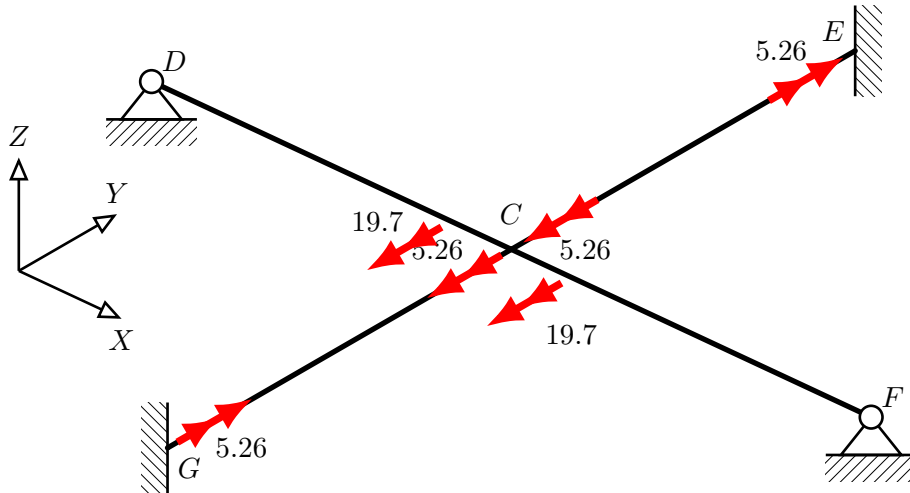
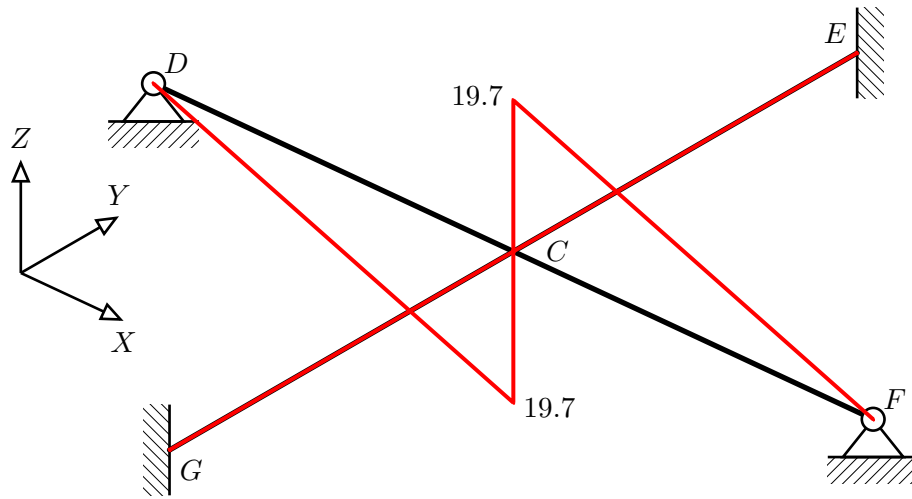
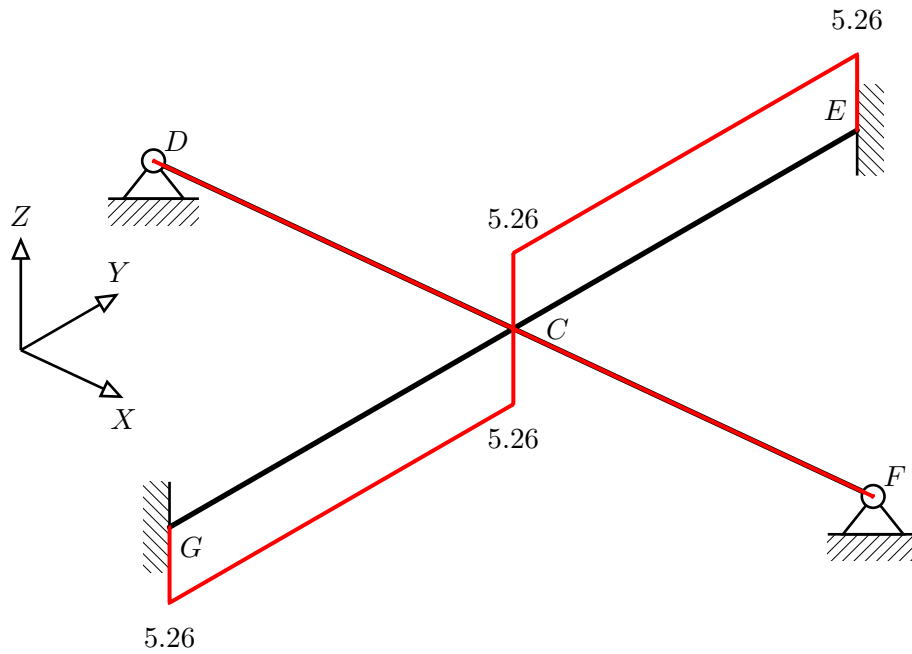

Figure 2: Free body diagram.
Figure 3: Bending Moment Diagram.
Figure 4: Torsion Moment Diagram.
Step 10 is to draw the internal actions diagrams. To do this, the results of the member actions which were derived in the local member coordinate system must now be considered now in the global coordinate system. The easiest way to do this is to draw the directions by carefully interpreting the member force signs against the global axis system. The resulting FBD is shown in Figure 2.
Considering the BMD, for each member, to identify the side in tension it can help to visualise the deformation resulting from the forces acting on it indicated in the free body diagram, Figure 2. Since there are no loads acting between the nodes, the BMD is comprised of straight lines between the values at each node. The BMD is shown in Figure 3.
For the TMD, it is not necessary to adopt a strict drawing convention once the relative actions are indicated. For example, the double-headed arrow in Figure 2 indicating the torsion of member CE could be thought of as an analogous “tension” which we may consider as positive, and so we draw the TMD above the line. Similarly, for member CG , the double-headed arrows act in the opposite sense to the analogous “tension” and so are analogous to “compression”, which we then draw on the bottom of the member, as shown in Figure 4.